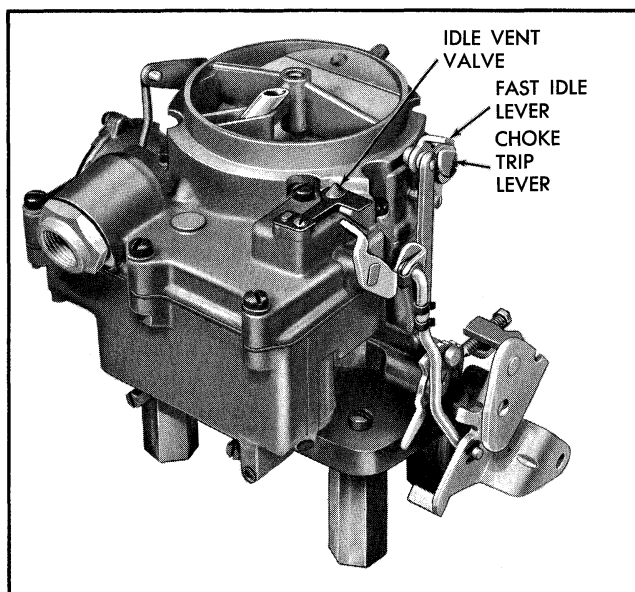

Fig. 6B-44 Rochester 2GC Carburetor
4. Remove retaining screw at the end of the choke shaft and remove choke trip lever and fast idle link and lever (Fig. 6B-44). Lever can be removed from link by turning until slot in lever will pass over tang on link. The link and fast idle cam are retained by a Truarc washer. Disassembly of these pieces will destroy the Truarc washer.